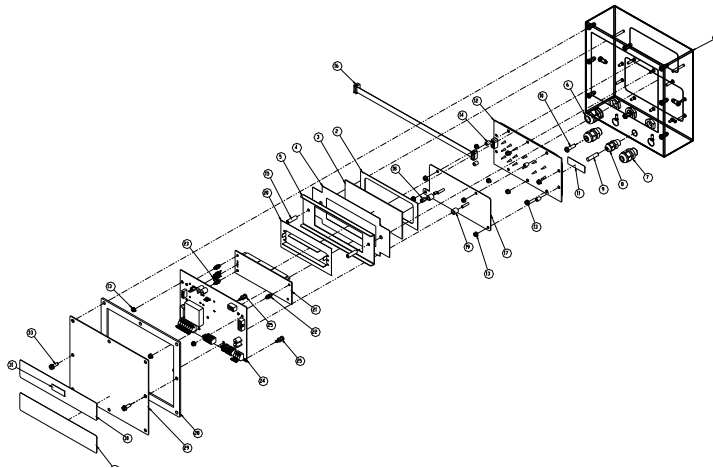

Figure 28: Model 355 I.S. Assembly Drawing
2. Secure the keypad by using a 7 mm nut driver and install one lock nut on the top center keypad stud. Install one lock nut on the left side and another lock nut on the right side. Refer to Figure 28 for positions of lock nuts and spacers.